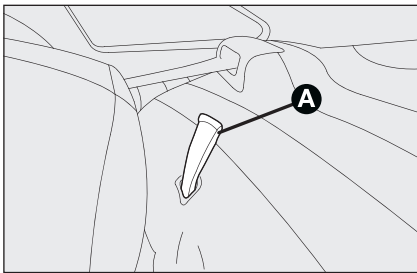

fig. 74/c
- pull the fastening devices **A-fig. 74/c** upwards to release the backrests and fold them onto the cushion.